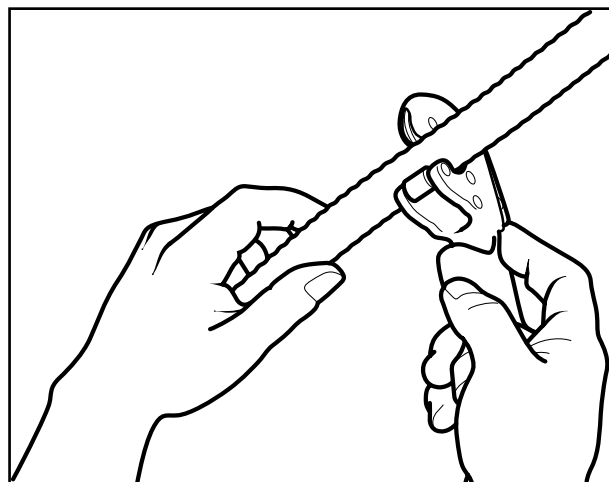

Figure: 4-2
1. CUT-TO-LENGTH: Determine proper length. Cut through plastic jacket and stainless tube using a tube cutter with a sharp wheel. Cut must be centered between two corrugations. Use full circular strokes in one direction and tighten roller pressure slightly (a quarter turn) after each revolution. DO NOT OVERTIGHTEN ROLLER, which may flatten tube. Figure: 4-2